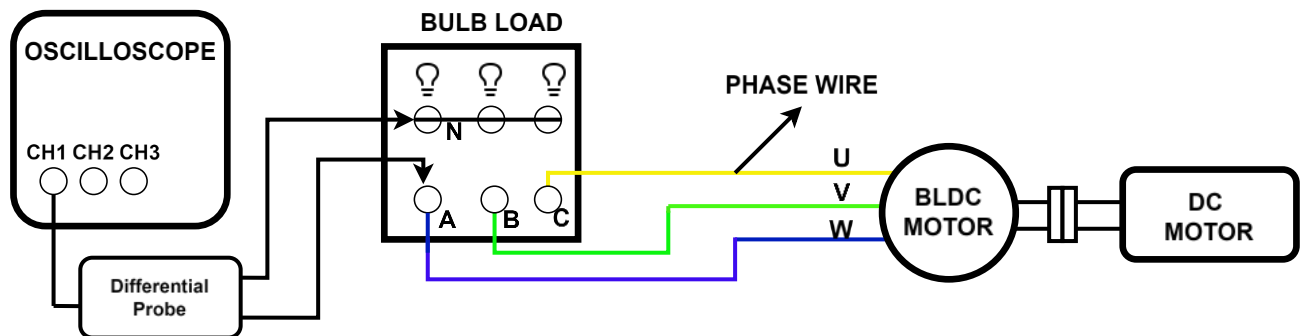

Fig1: - Circuit diagram for back emf waveform setup
- Connect the circuit as shown in Fig1. In this experiment, the DC motor will be used as a prime mover for the BLDC motor.